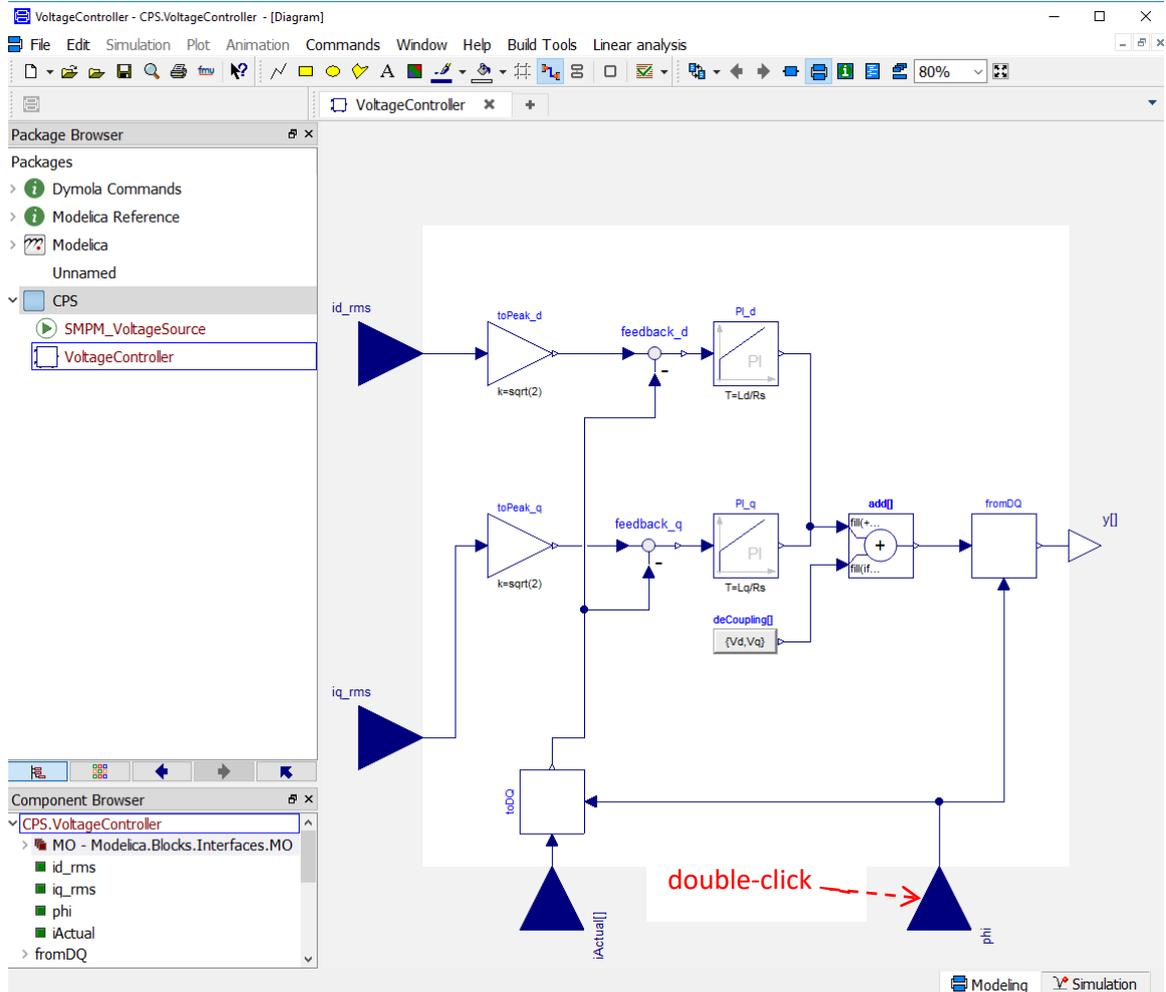
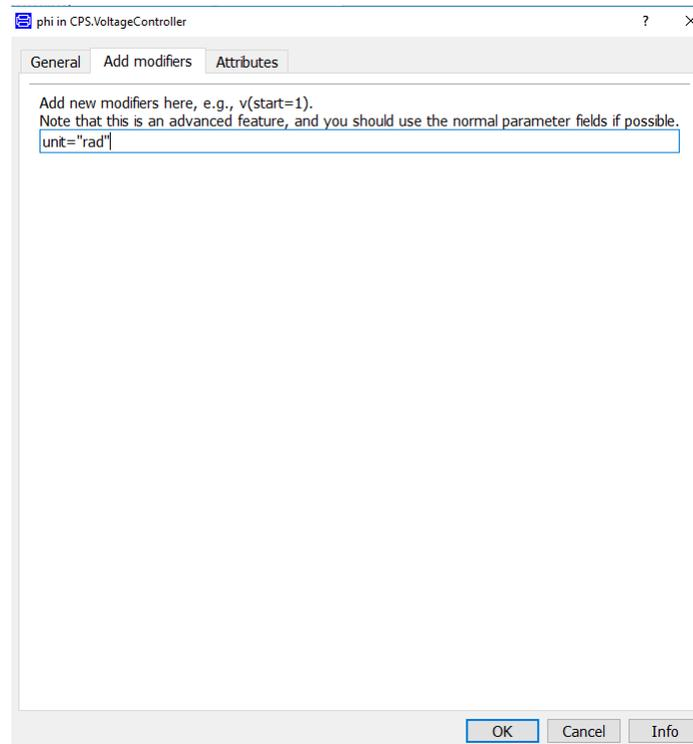

Figure 5 – The duplicated voltage controller model marked in Figure 3.
Figure 7 – Dialog box of CPS.VoltageController’s **phi** connector, with Add modified tab is displayed.
- Duplicate this **voltageController** model available in MSL, and place it into the newly created package, as in step 2 (Figure 5).
7. Now, go to the duplicated **voltageController** model in **CPS** in Figure 5, and double-click on **phi**. A pop-up dialog box will appear and then click **Add modifiers** tab and paste the unit copied in the previous step to the empty field as shown in Figure 7. Then click OK.